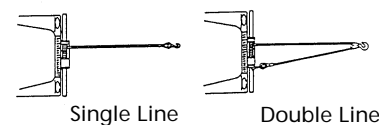

Figure 2
1. THE HUSKY 10 winch is rated at 10,000 pounds capacity. **DO NOT OVERLOAD. DO NOT ATTEMPT PROLONGED PULLS AT HEAVY LOADS.** DO NOT MAINTAIN POWER TO THE WINCH IF THE MOTOR STALLS. Overloads can damage the winch and/or the wire rope and create unsafe operating conditions. FOR HEAVY LOADS, WE RECOMMEND THE USE OF THE OPTIONAL PULLEY BLOCK AND HOOK ASSEMBLY (PART NO. 7750A) TO DOUBLE LINE THE WIRE ROPE (FIG. 2). This reduces the load on the winch and the strain on the wire rope by approximately 50%. If attaching back to vehicle, attach to the frame or other load bearing part. The vehicle engine should be running during winch operation to minimize battery drain and maximize winch power and speed. If considerable winching is performed with the engine off, the battery may be too weak to restart the engine.